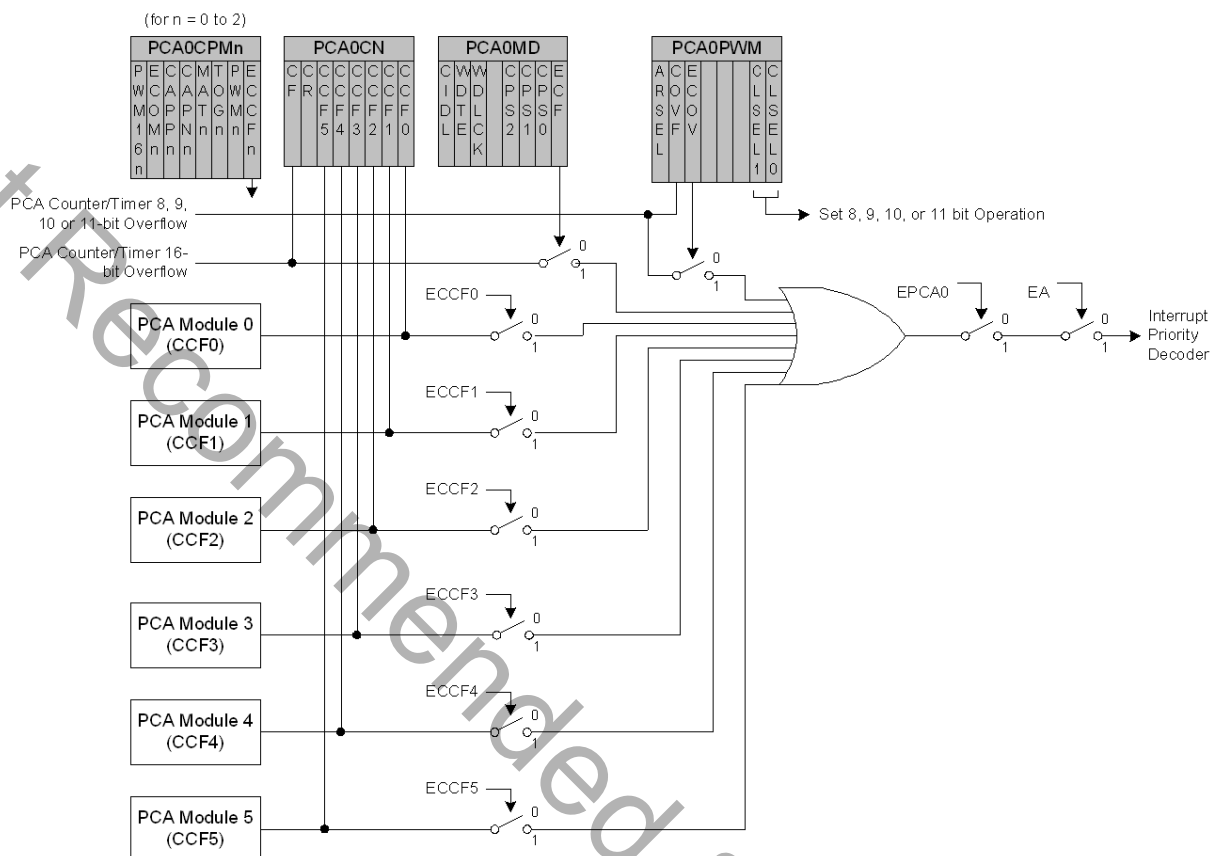

Figure 24.3. PCA Interrupt Block Diagram
Figure 24.3 shows a diagram of the PCA interrupt tree. There are five independent event flags that can be used to generate a PCA0 interrupt. They are as follows: the main PCA counter overflow flag (CF), which is set upon a 16-bit overflow of the PCA0 counter, an intermediate overflow flag (COVF), which can be set on an overflow from the 8th, 9th, 10th, or 11th bit of the PCA0 counter, and the individual flags for each PCA channel (CCF0, CCF1, CCF2, CCF3, CCF4, and CCF5), which are set according to the operation mode of that module. These event flags are always set when the trigger condition occurs. Each of these flags can be individually selected to generate a PCA0 interrupt, using the corresponding interrupt enable flag (ECF for CF, ECOV for COVF, and ECCFn for each CCFn). PCA0 interrupts must be globally enabled before any individual interrupt sources are recognized by the processor. PCA0 interrupts are globally enabled by setting the EA bit and the EPCA0 bit to logic 1.